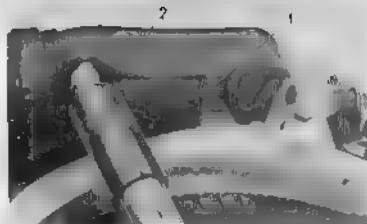

Fig. 4.50 Removing seat mounting nut
1. Unscrew the two seat mounting nuts ① located under the seat (Fig. 4.50).